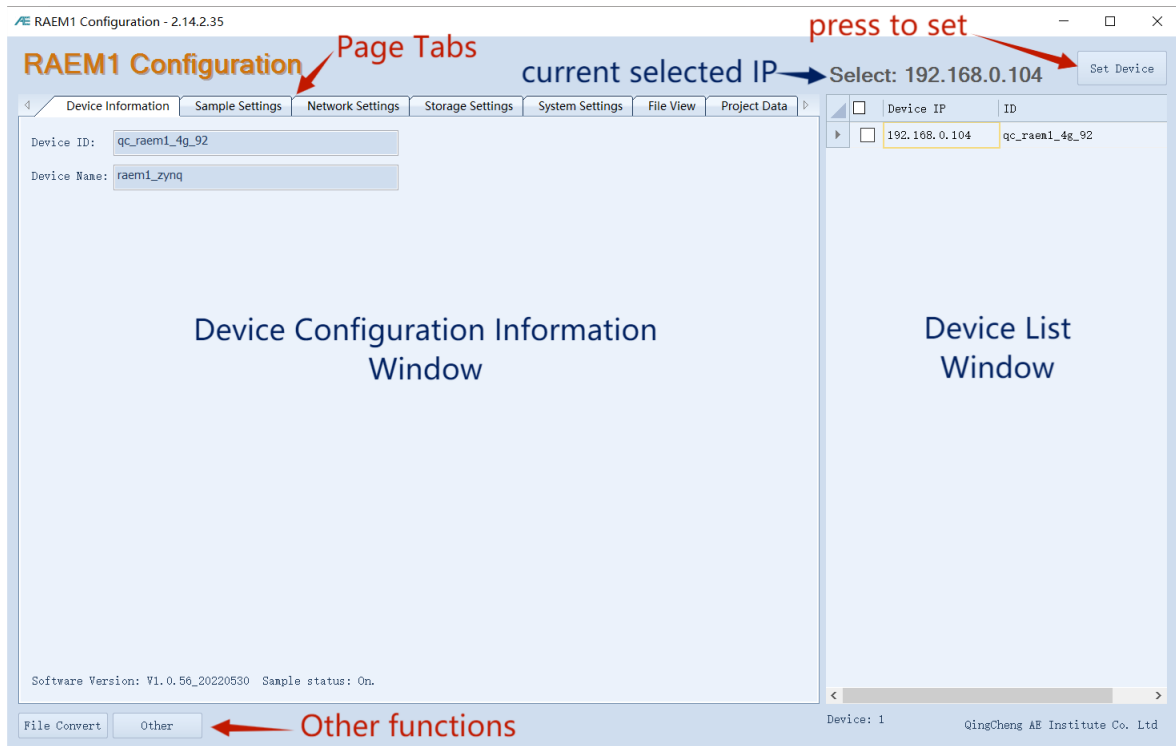

Fig. 4-4 RAEM1 Configuration Main Interface
- ② The RAEM1 Configuration software main interface is as shown in Figure 4-4. It mainly consists of two big parts, the **Device Configuration Information** on the left window and the **Device List** including all the connectable devices on the right. The tabs of different pages are on top of the device configuration information window. Click on the tabs to switch to different pages. On top of the device list on the right shows the current selected device IP. All the device information on the left window is from this current IP device. The **Set Device** button on the top right corner is to send the configuration information to the selected devices. Normally once the configurations are sent to the devices, it will take effects immediately, except for some settings with the **Modify** buttons next to them. On the bottom left corner there are two buttons, **File Convert** and **Other**. In the **Device Information** page, it shows the device firmware version and the sampling status on the bottom left corner of the device information window.